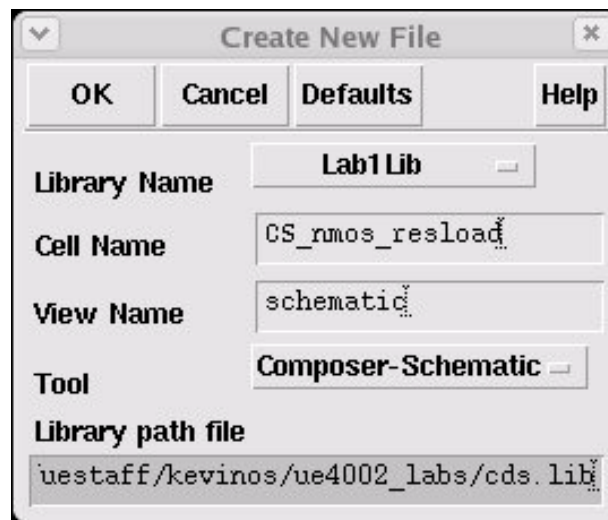

Figure 7: Create New File window
- [2] In the 'Create New File' window which appears (Figure 7):